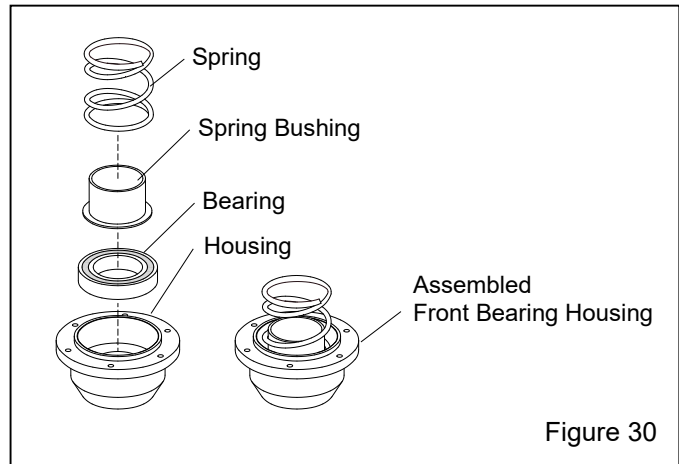

Figure 30
**9.3.3** Turn the front housing on its end, as shown in Figure 30 and insert the bearing into the housing until it is fully seated against the u-seal. Note that the fit between the outer race on the bearing and housing are very tight; the bearing can be inserted without pressing it, if it inserted straight into the housing without any side-cocking.